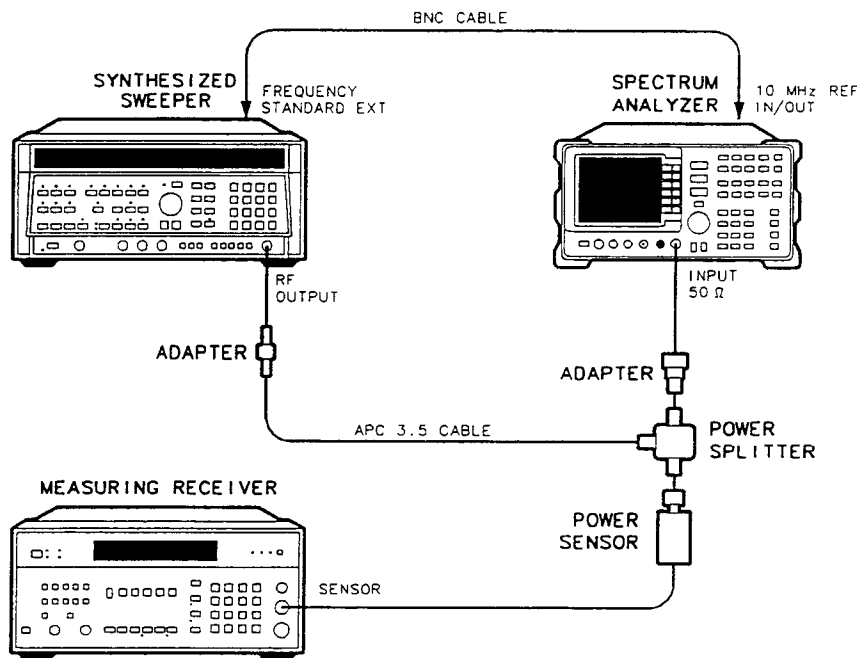

Figure 3-13. Image, Multiple, Out-of-Band, and Out-of-Range Responses Test Setup
- Connect the equipment as shown in Figure 3-13, but do not connect the power sensor to the power splitter.